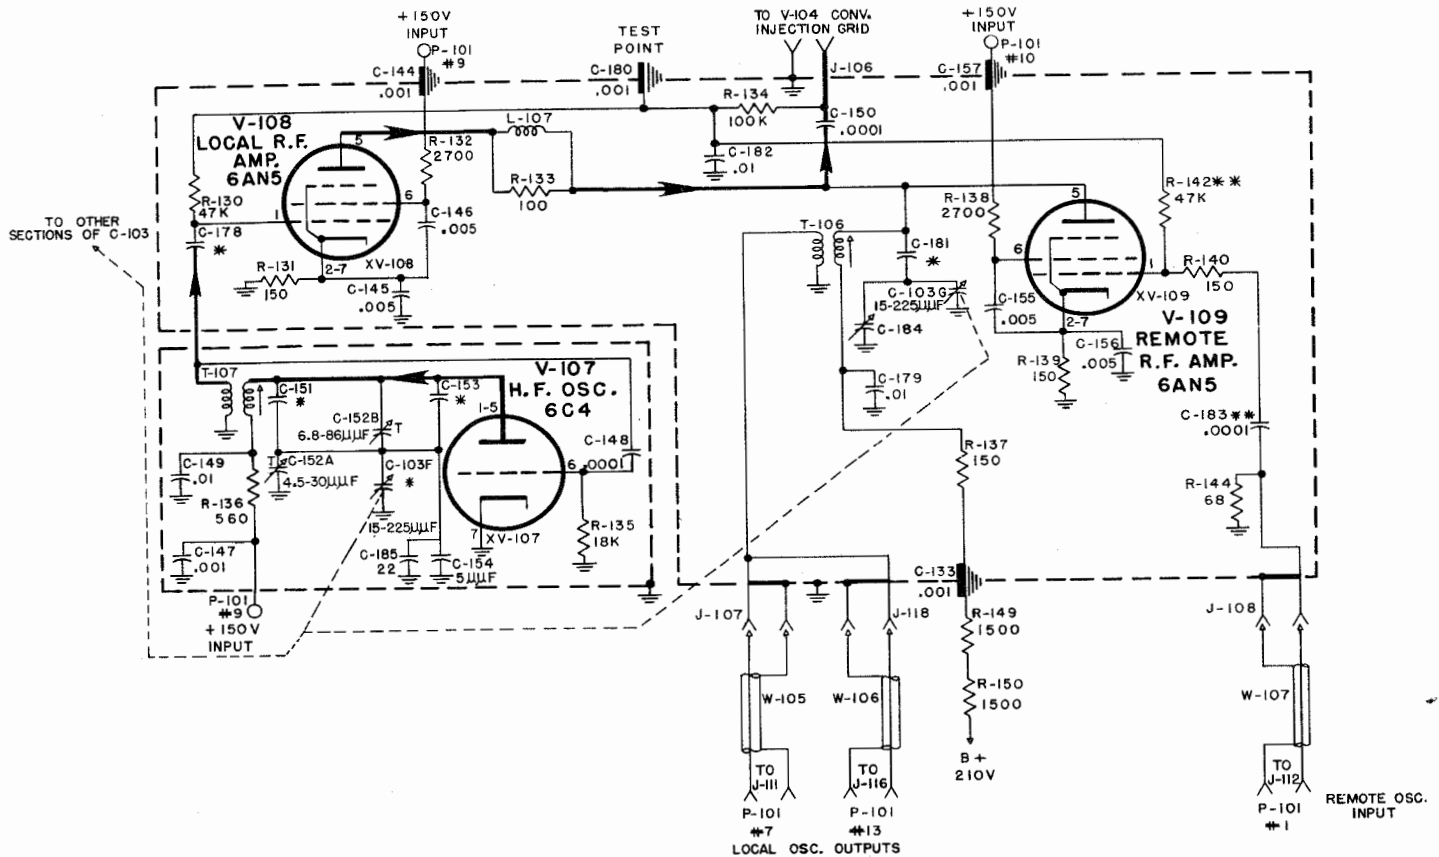

Figure 2-7. Local High Frequency Oscillator and Local-Remote R.F. Amplifier Stages, Simplified Schematic Diagram
e. LOCAL H.F. OSCILLATOR AND LOCAL-REMOTE R.F. AMPLIFIER CIRCUIT DETAILS (AM-450/FRR-24, AM-451/FRR-24, AM-453/FRR-24, AM-452/FRR-24). (See Figure 2-7).—A type 6C4 triode is used as the high frequency oscillator tube V-107 in a tuned plate grid